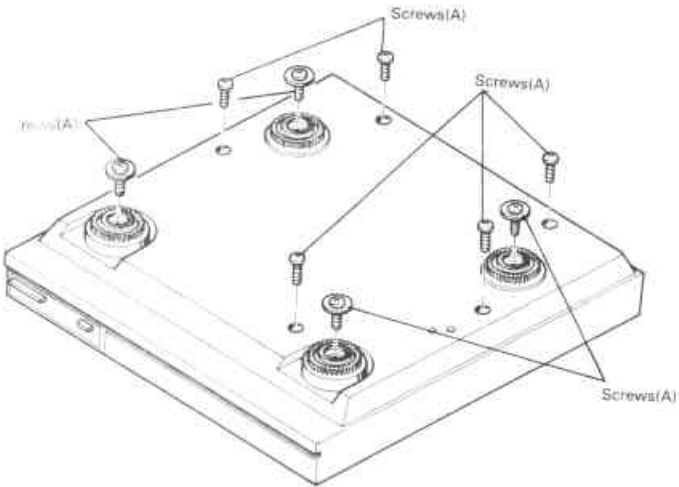

Fig. 1
1. Bottom Cover Removal (Fig. 1)